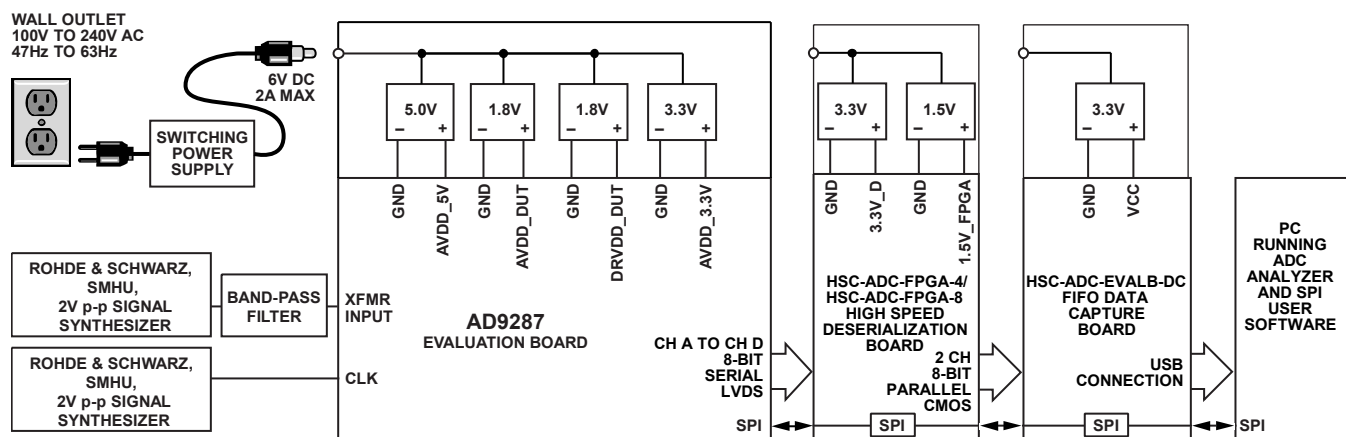

Figure 60. Evaluation Board Connection
The AD9287 evaluation board provides all of the support circuitry required to operate the ADC in its various modes and configurations. The converter can be driven differentially using a transformer (default) or an AD8332 driver. The ADC can also be driven in a single-ended fashion. Separate power pins are provided to isolate the DUT from the drive circuitry of the AD8332. Each input configuration can be selected by changing the connection of various jumpers (see Figure 62 to Figure 66). Figure 60 shows the typical bench characterization setup used to evaluate the ac performance of the AD9287. It is critical that the signal sources used for the analog input and clock have very low phase noise (<1 ps rms jitter) to realize the optimum performance of the converter. Proper filtering of the analog input signal to remove harmonics and lower the integrated or broadband noise at the input is also necessary to achieve the specified noise performance.
- **D + x, D - x:** If an alternative data capture method to the setup shown in Figure 60 is used, optional receiver terminations, R206 to R211, can be installed next to the high speed back-plane connector.